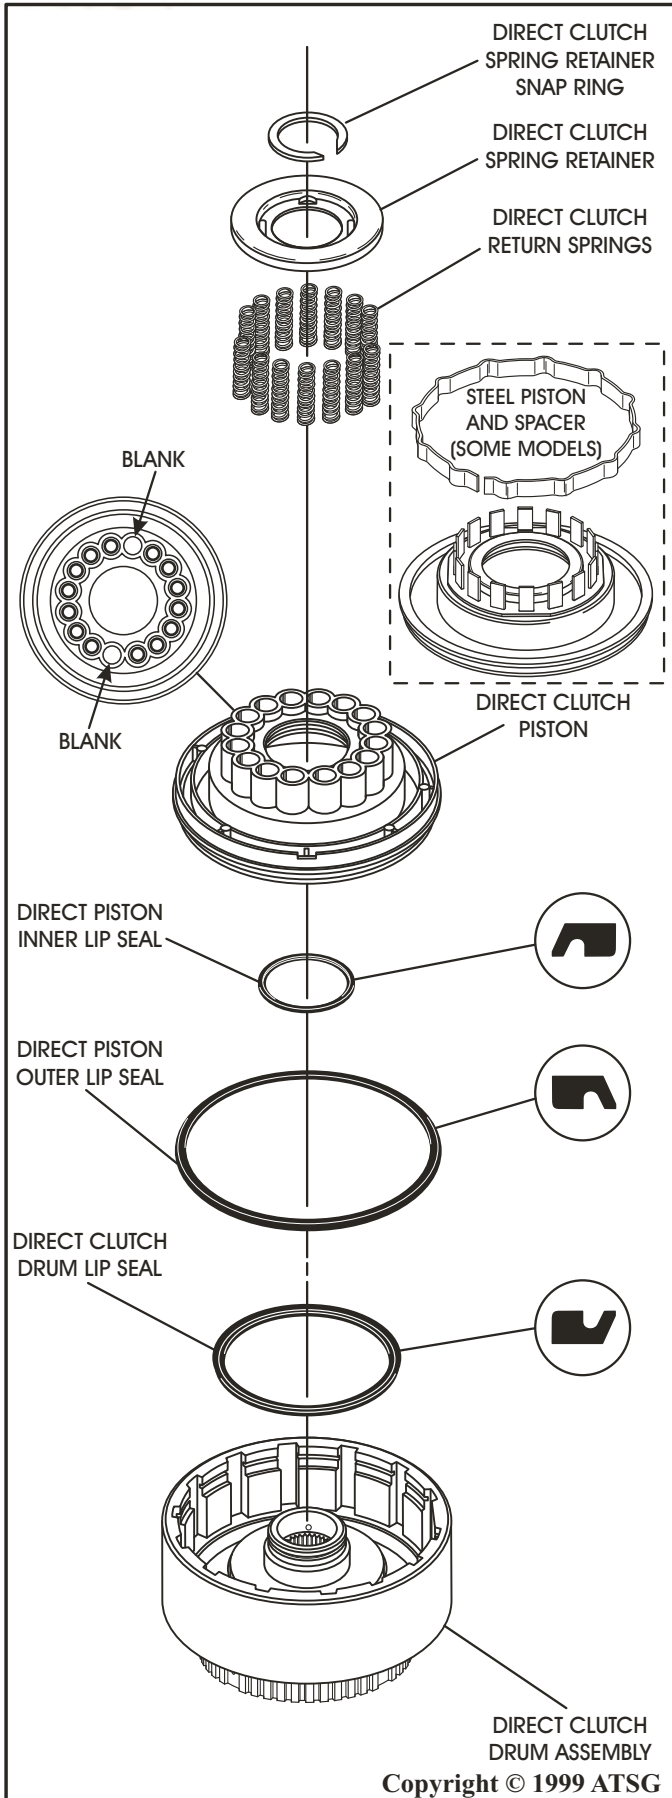

Figure 79
6. Install new direct drum lip seal into the groove in direct drum, with the lip facing the direction shown in Figure 79, and lubricate with a small amount of TransJelö.
7. Install new direct clutch piston outer lip seal in groove of direct clutch piston, with lip facing the direction shown in Figure 79.
8. Install new direct clutch piston inner lip seal in groove of direct clutch piston, with lip facing the direction shown in Figure 79.
**Note:** Some models use a stamped steel direct clutch piston and spacer (See Figure 79).
13. Install the 14 direct clutch piston return springs into the cavities in the piston in the positions shown in Figure 79, leaving two blank pockets 180 degrees from one another.
14. Install the direct clutch return spring retainer on top of the springs, and lay the snap ring on top of the retainer (See Figure 79).